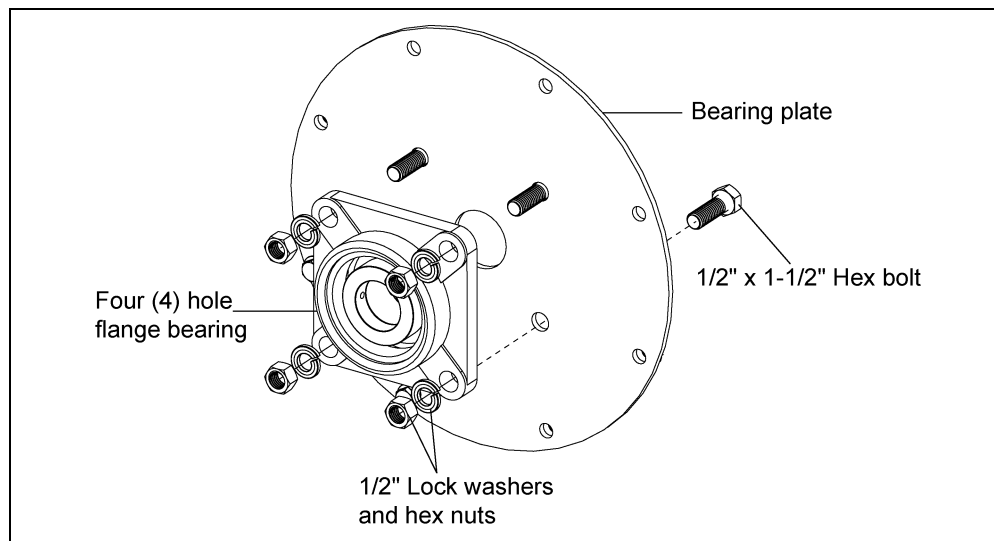

Figure 4L
1. Bolt the previously removed 1-1/2" four (4) hole flange bearing to the bearing plate using four (4) 1/2" x 1-1/2" hex bolts, lock washers and hex nuts. (See Figure 4L.)